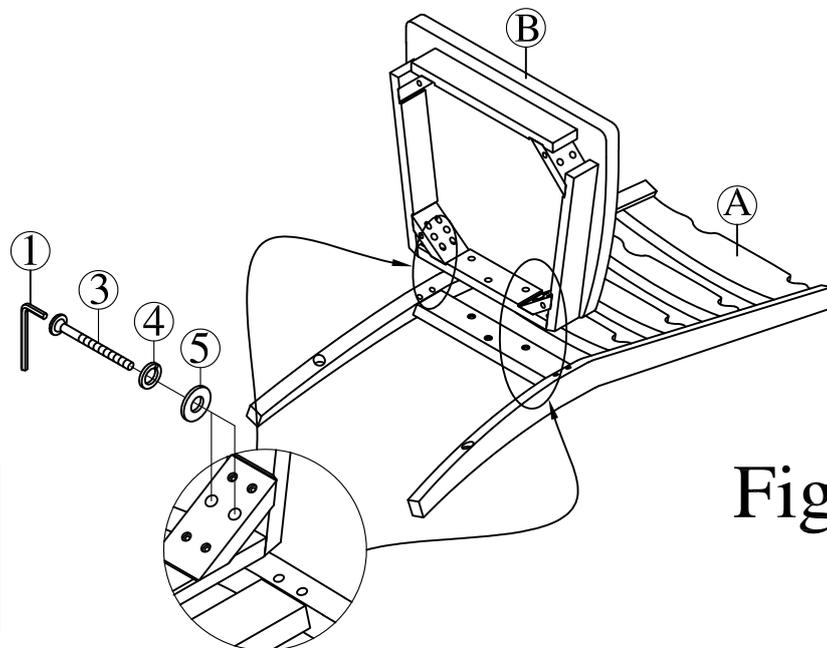

Fig.2
Step 2 : Use Long Bolt (3), Spring Washer (4) Flat Washer (5) and Allen Key (1) to attached the Wooden Seat (B) to Chair Back Rest (A) as shown in Fig. 2 .